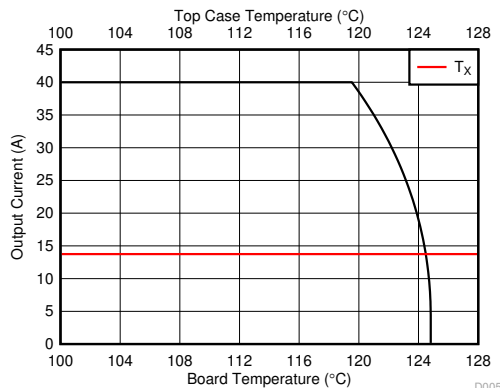

Figure 4-3. Typical Safe Operating Area
The SOA curve in Figure 4-3 provides guidance on the temperature boundaries within an operating system by incorporating the thermal resistance and system power loss. This curve outlines the board and case temperatures required for a given load current. The area under the curve dictates the safe operating area. This curve is based on measurements made on a PCB design with dimensions of 4in (W) × 3.5in (L) × 0.062in (H) and 6 copper layers of 2oz copper thickness.